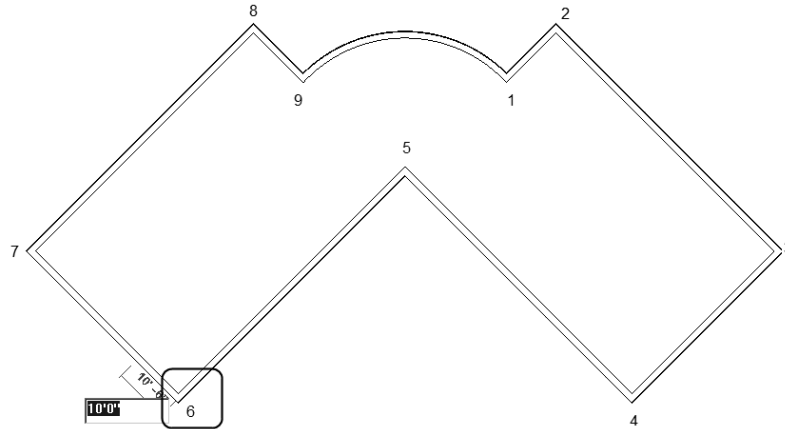

Figure 3-65 Specifying the start point of the first interior wall
- g. Sketch the interior walls based on the given parameters, refer to Figures 3-65 through 3-71.
3. Move the cursor close to the lower left corner, marked as 6, refer to Figure 3-65, and traverse upward along the centerline of extreme left wall of the building profile. When the temporary dimension appears, enter the value **10'** and press ENTER to start the interior wall profile from the specified point, as shown in Figure 3-65.